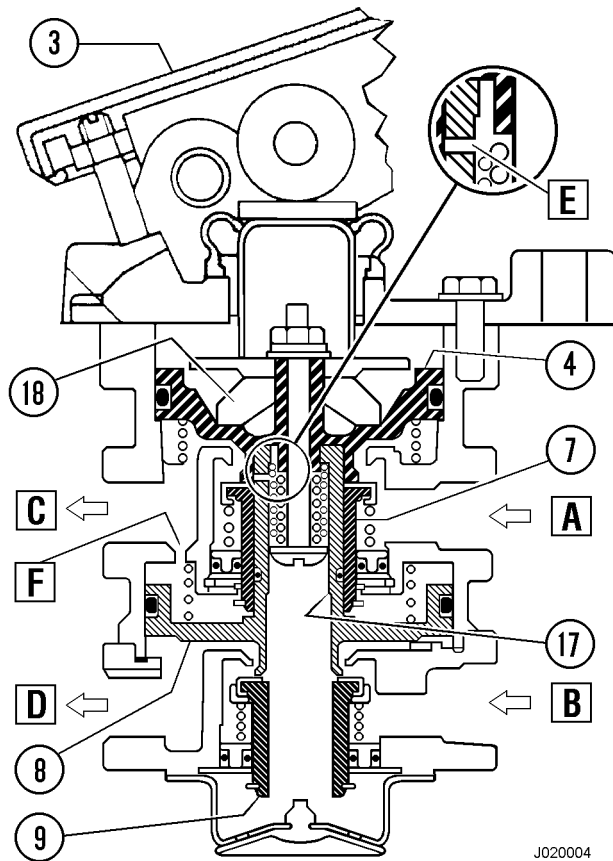

FIGURE 2-43. BRAKE APPLY
When the brake pedal (3, Figure 2-43) is depressed, the pedal movement will be transmitted to the piston (4) through the rubber spring (18), causing the piston (4) to move downward. Then, the exhaust port (E) will be closed and the upper inlet valve (7) will be opened. Thus, the pressurized air from the air reservoir (tank) will flow to the rear brake chamber, causing the application of the rear brake to start.